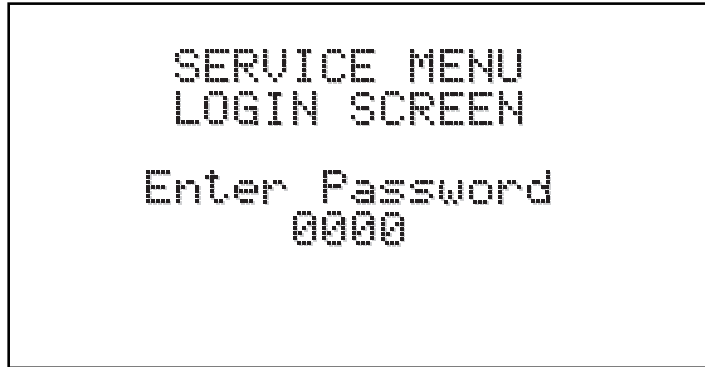

Figure 19
4.3.4 Service Menu (Figures 19 and 20)
Selecting the SERVICE MENU will display the Login Screen (Figure 19). Enter the service password, 1234 and press **ENTER**.